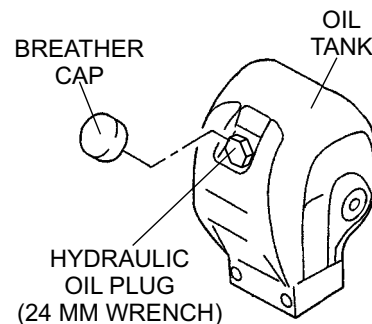

Figure 35. Hydraulic Oil Tank
1. Remove the breather cap and oil plug (Figure 35) from the hydraulic oil tank using a 24mm hex socket.